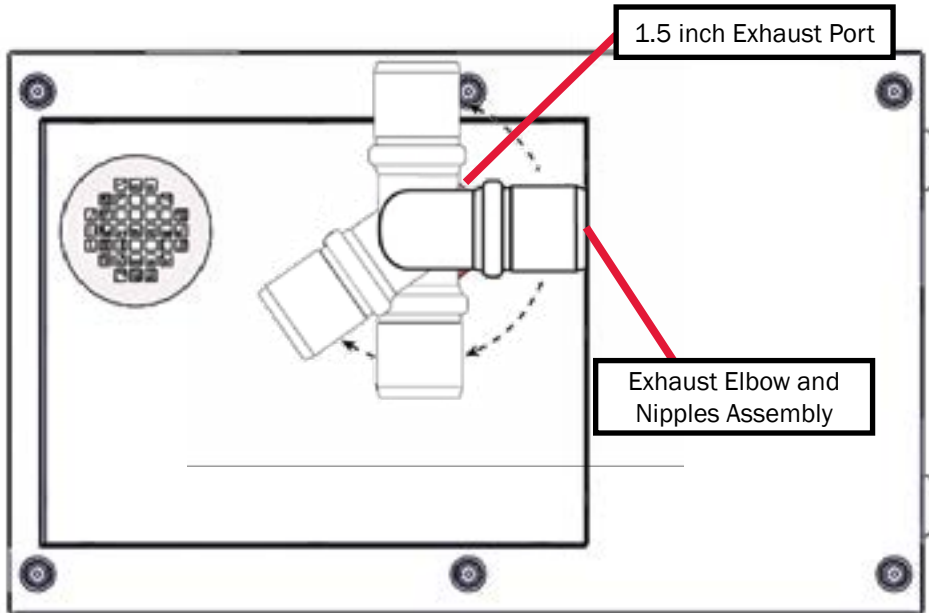
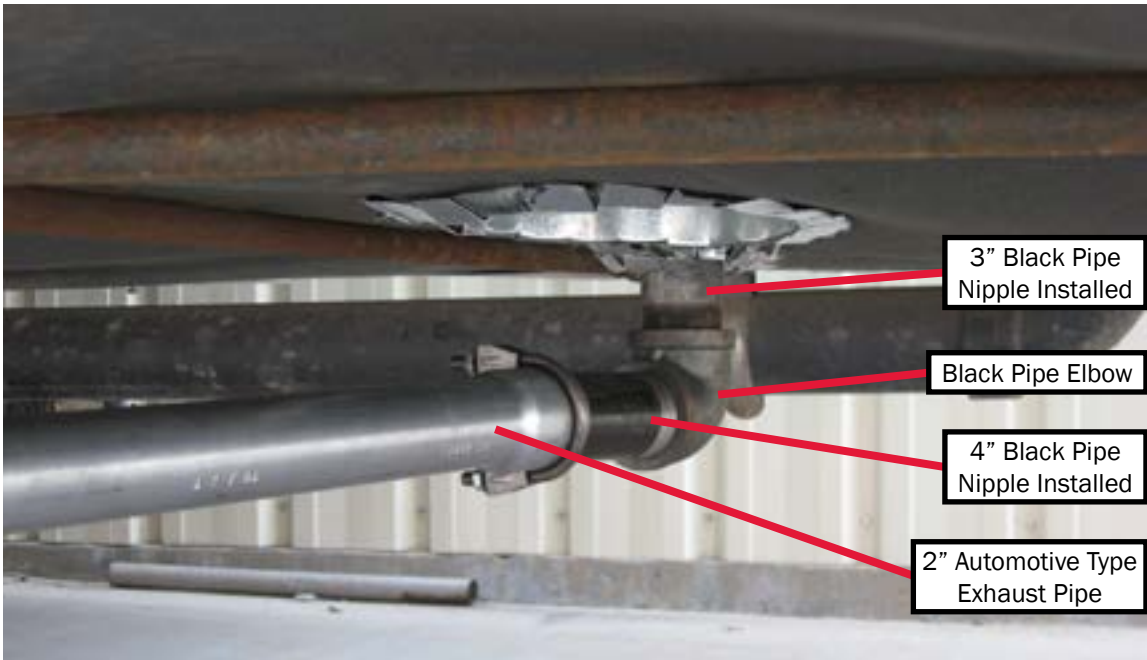

Figure 17
Figure 19
- Angle the exhaust pipe towards the rear of the vehicle, so that exhaust fumes will naturally move away while the vehicle is in motion. See Figure 17.
- Use standard 2" automotive-type exhaust piping and avoid bends, if possible. A minimum 1.75" ID automotive-type exhaust pipe may be used. See Figure 17 & Figure 19.
- Do not use galvanized pipe fittings (only black-iron pipe and fittings should be used). Reference Figure 19.
3. Slide the exhaust tip over the end of the exhaust pipe, being sure to leave a required clearance of one inch between the band on the tip and the end of the exhaust pipe. Mark where the holes should be drilled to allow for a #8 sheet metal screw 3/8 inch in length to securely mount the exhaust tip to the exhaust pipe. Drill the holes in the pipe and mount the exhaust tip. This will prevent excessive air movement up the exhaust pipe, preventing the propane burner from extinguishing. See Figure 17.